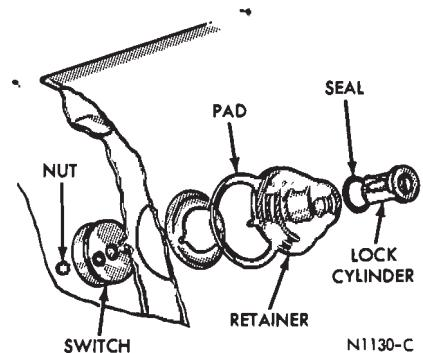

FIG. 15—Tailgate Switch and Lock Cylinder Installation—Typical
7. Remove the nuts retaining the lock and switch, and then remove the lock and lock cylinder from the tailgate (Fig. 15).